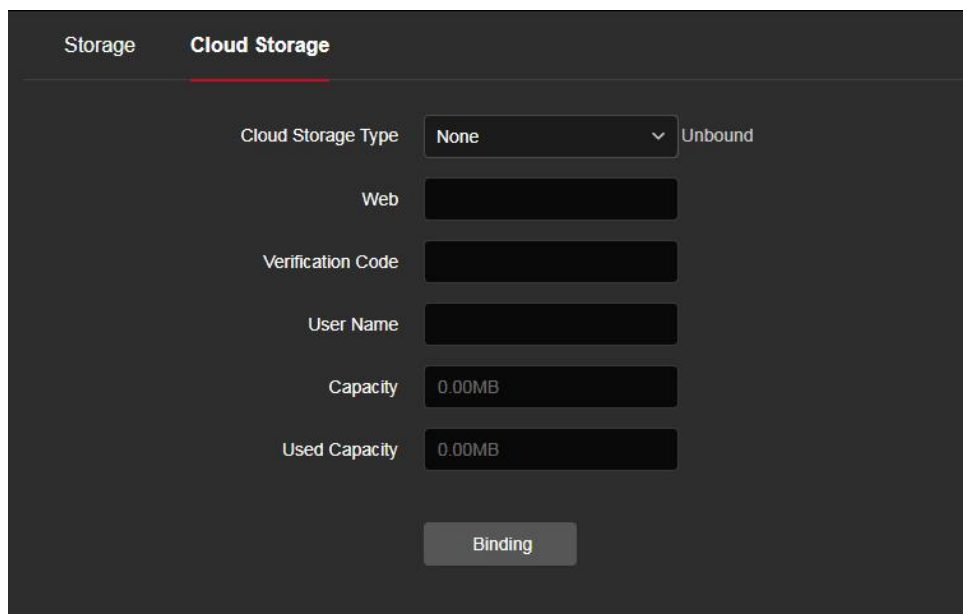

Figure 8-7-6
Step 1: In the main interface, click "Configuration → Storage → Storage management → Cloud Storage" to enter the cloud storage configuration interface, as shown in Figure 8-7-6.